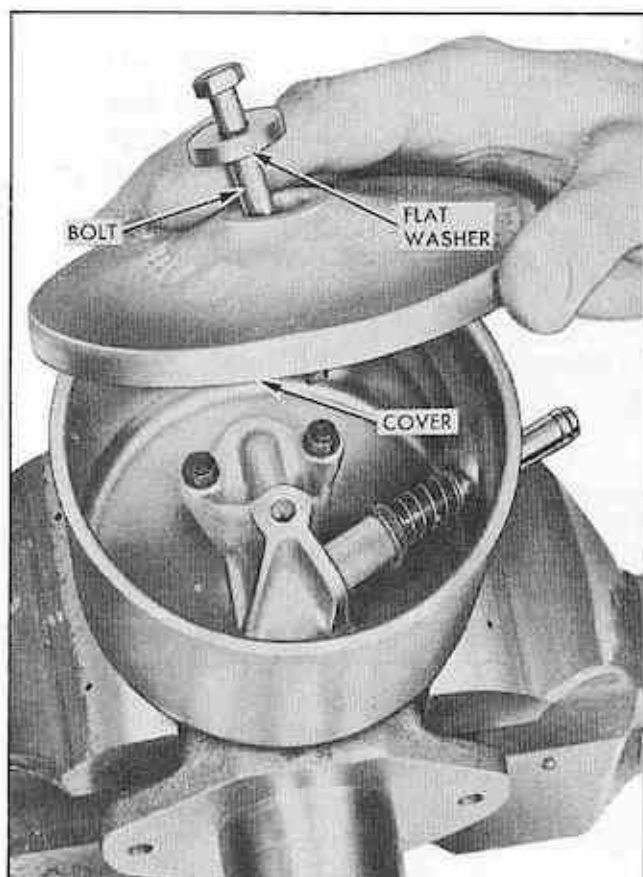

Fig. 92 Removing Reservoir Cover
1. Remove reservoir cover bolt, flat washer, and reservoir cover with gasket (Fig. 92).